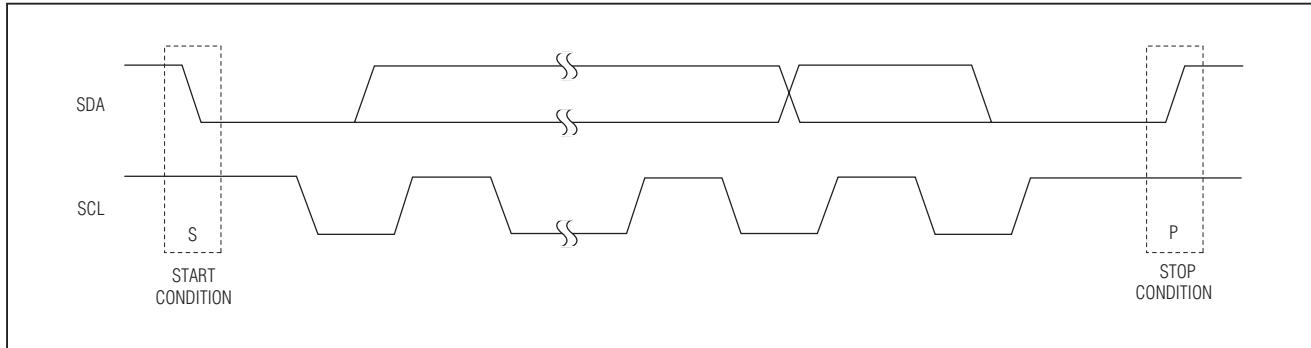

Figure 24. START and STOP Conditions
Both SCL and SDA remain high when the interface is not busy. A master signals the beginning of a transmission with a START (S) condition by transitioning SDA from high to low while SCL is high (see Figure 24). When the